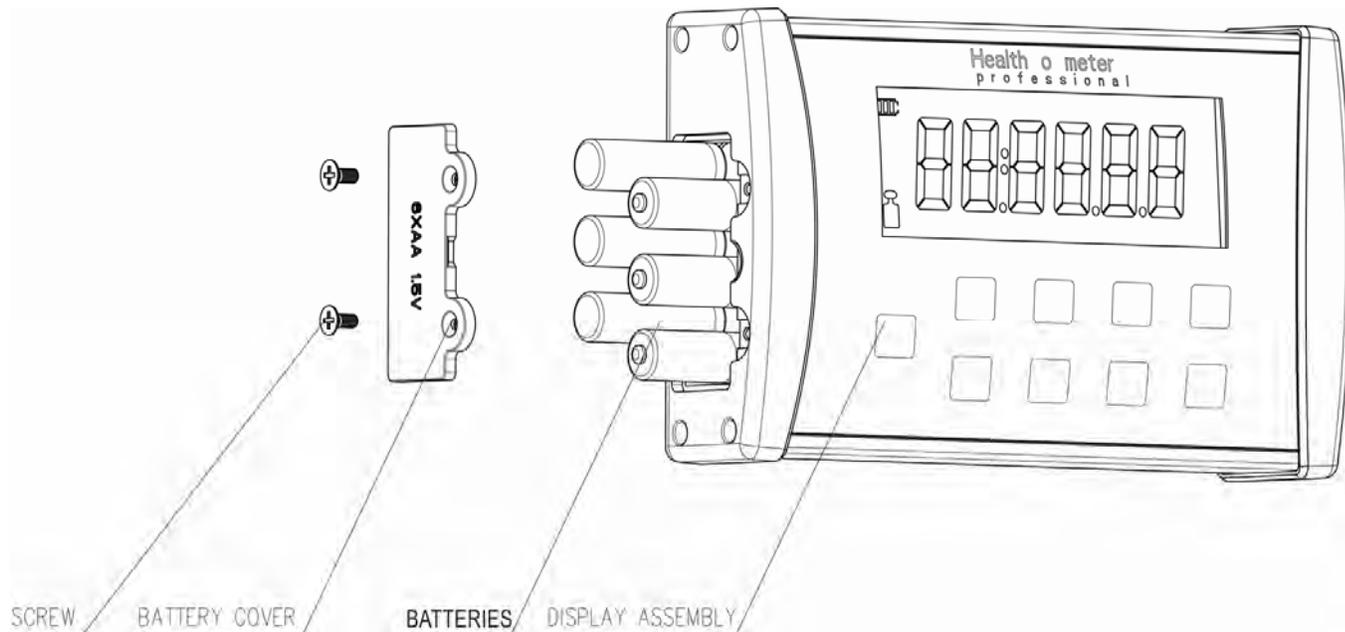

Figure 13
2. Remove the battery cover on the side of the display assembly by unscrewing the (2) battery cover screws (see Figure 13).